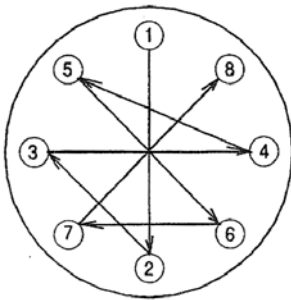

Figure 11. Mounting bolt torque sequence, 8 holes.
5. First, tighten the bolts to 60% of the specified torque; next, torque to 90%; finally, finish at 100%. The mounting bolts should be torqued in sequence, as shown in Figures 11, 12, and 13. For cells having 4 mounting holes, use the pattern for the first 4 holes in the 8-hole pattern.